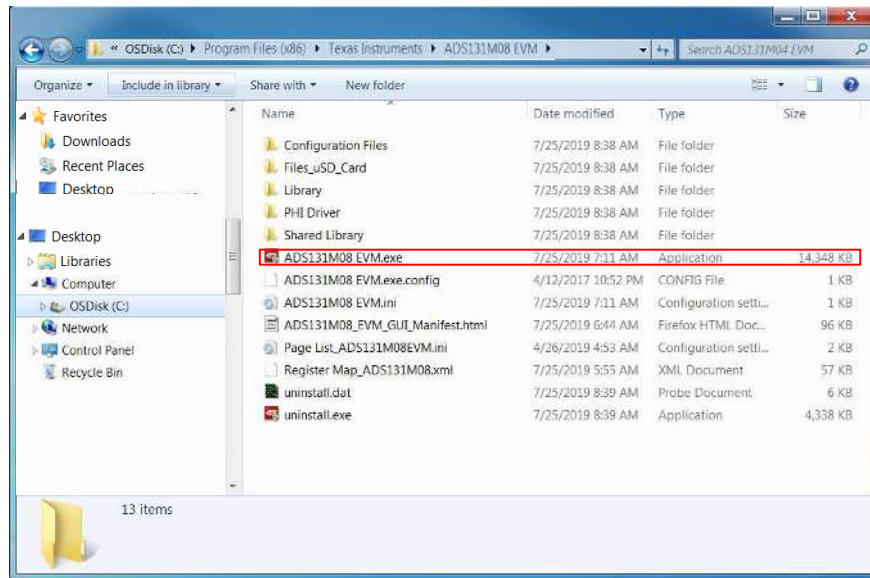

Figure 11. Launch the EVM GUI Software
3. Figure 11 shows how to launch the ADS131M08EVM GUI software.